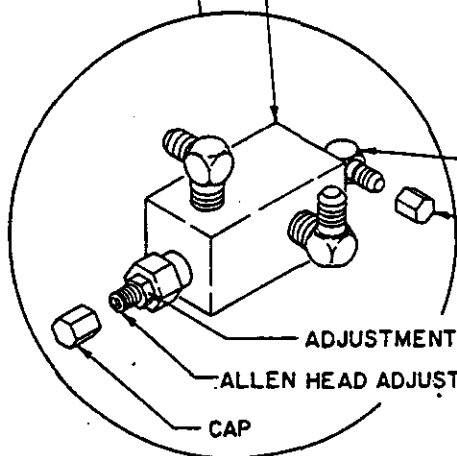

FIG. 4
- ♦ (Figure 4) Remove cap and loosen adjustment nut on relief valve below manifold. Turn allen head adjustment screw all the way clockwise to raise the relief setting to the maximum (DO NOT OVER TIGHTEN).
- ♦ Engage PTO and insure pump flow is 6 to 7 GPM and main relief is set to 2350 psi. With no load on boom, boom up to an angle of 70 degrees. Boom down and note pressure. If pressure reading is not 550 - 600 PSI, the counterbalance valve requires adjustment (Figure 4).
### Relief Valve (Fig 4) Setting
- ♦ With no load on boom, boom up to an angle of 70 degrees. Boom down and note pressure. If pressure reading is not 750 - 800 PSI, the pressure relief valve requires adjustment (Figure 4).